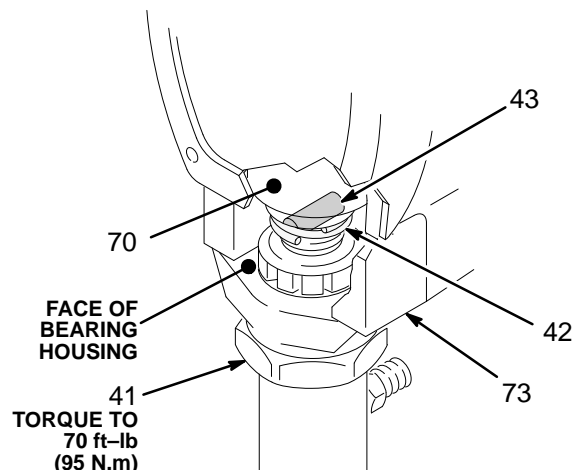

Fig 38-3
Be sure the retaining spring (42) is firmly in the groove of the connecting rod, all the way around, to prevent it from working loose due to vibration. Refer to Fig 38-3.
Install the pump See Fig 38-3.